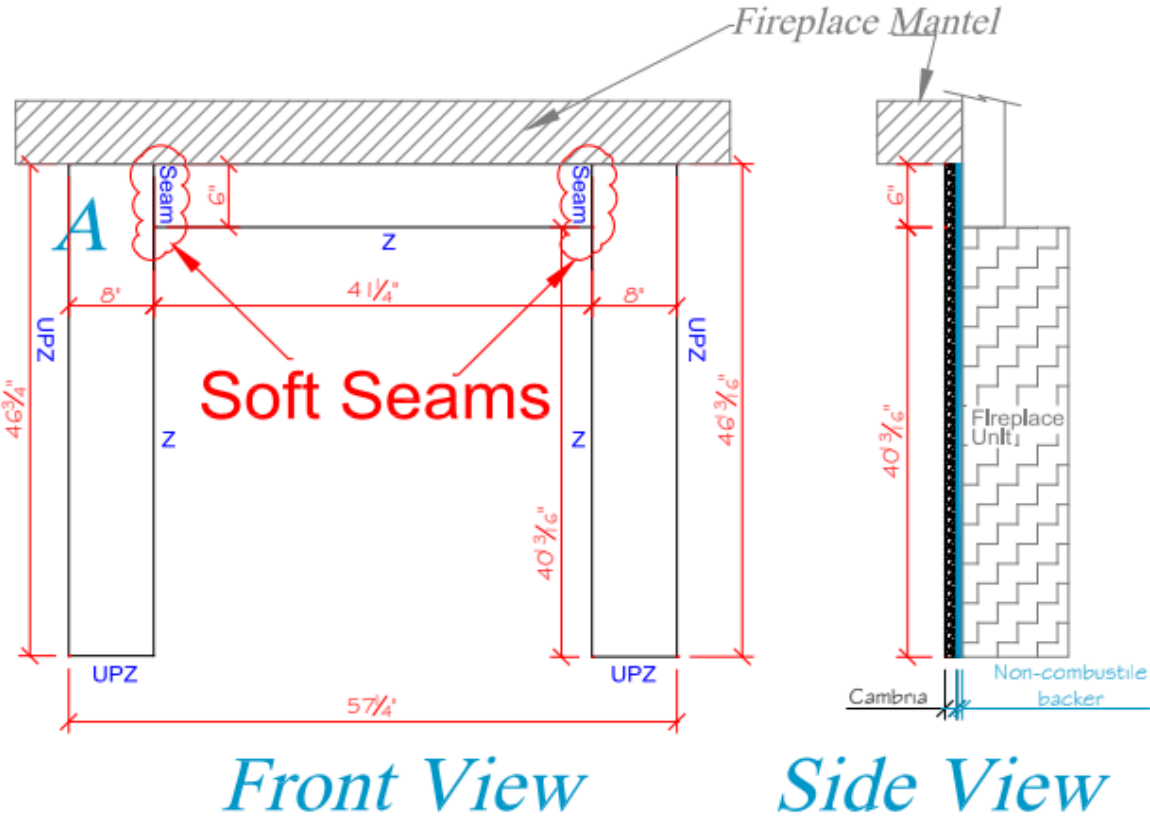

Figure 7
- a. The height of the keystone piece may be less than the 10" requirement when a mantel is incorporated into the finished fireplace. **See Figure 7.**